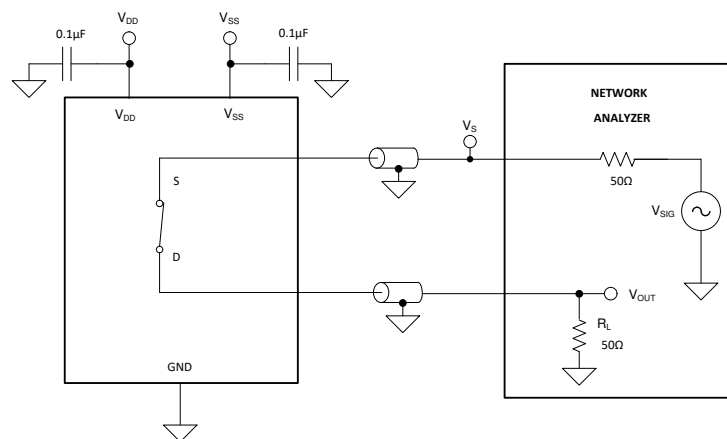

Figure 7-10. Bandwidth Measurement Setup
Bandwidth is defined as the range of frequencies that are attenuated by less than 3 dB when the input is applied to the source pin (S_x) of an on-channel, and the output is measured at the drain pin (D) of the device. Figure 7-10 shows the setup used to measure bandwidth.